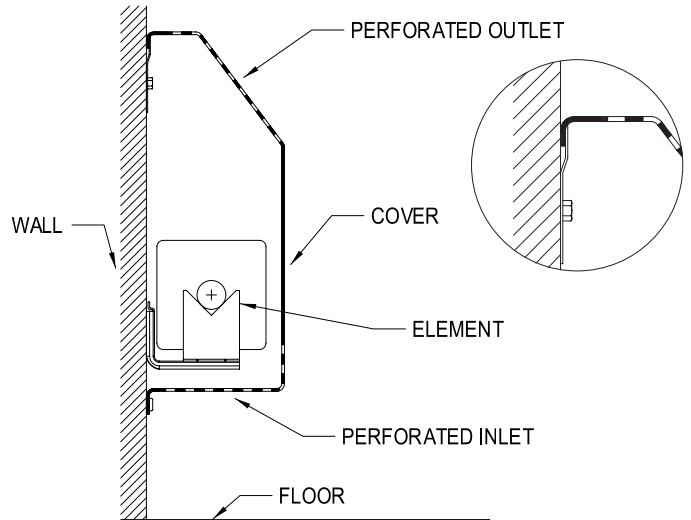

FIGURE S-5
- (5a) Place the cover over the element and the offset strip and push the cover until it locks into the strip. (FIGURE S-5)